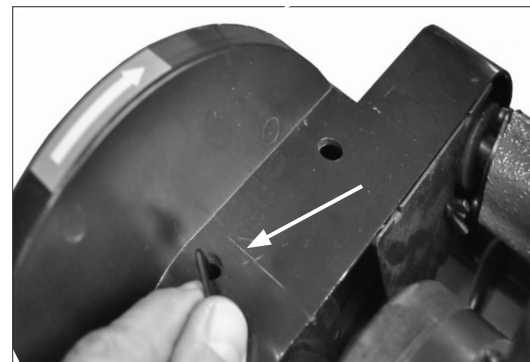

FIG. 7
17. Tighten the disc onto the motor shaft with the pre-installed hex Set Screw (#34). You can get access to it through the hole in the cover guard. FIG. 7.